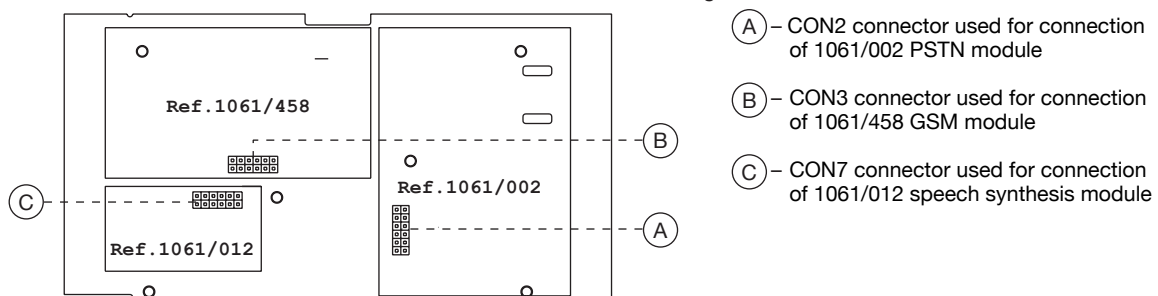

Figure 6 – Connectors for expansions in motherboard
3. Put the PSTN telephone communicator on the motherboard (see fig. 6 to identify the connector position).
3. Put the GSM module on the motherboard (see fig. 6 to identify the position of the connector).
3. Put the speech synthesis card on the motherboard (see fig. 6 to identify the position of the connector).